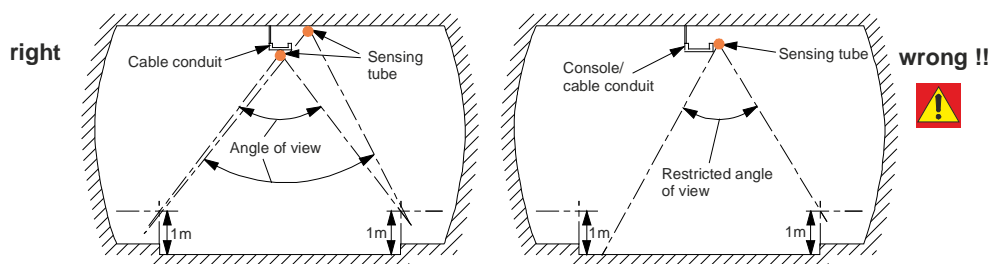

Fig. 18 Angle of view for sensing tube mounting in tunnels
- The sensing tube must be routed in a way that does not impact the lateral visual angle (**Fig. 18**).